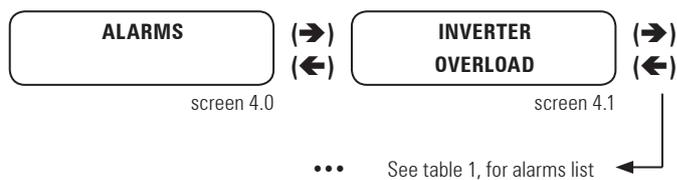

Fig. 34. Screen 4.0 «Alarms» and its submenus.
6.3.5. "ALARMS" level (screen menu 4.0). See Fig. 34.
Figure 34 is showing just only one alarm as an example, but there could be some of them, the active ones.